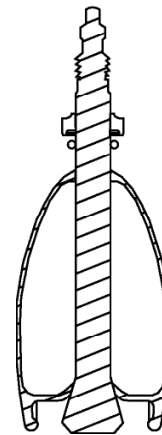

Fig. 1 - A
- Remove the lock nut (fig. 1 - A) that's screwed onto the exterior valve threads.
- Screw the previously removed locknut (fig. 1 - A) back onto the valve, so that the valve is held in place relative to the rim.